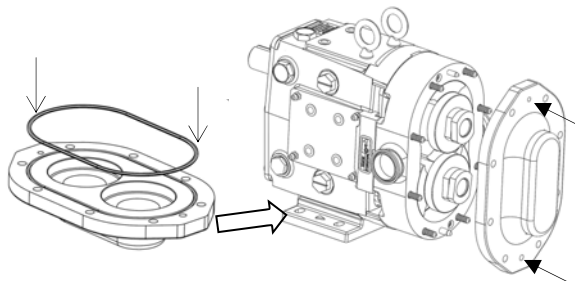
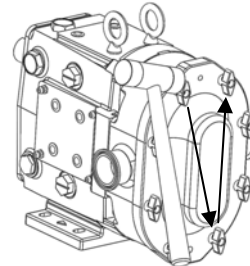

Figure 63: Installing Cover O-ring and Cover
Figure 64: Tightening Cover Wing Nuts
3) Install the new cover o-ring and slide the cover over the studs making sure that the dowels in the body are aligned with the correct dowel holes in the cover (Figure 63). Visually inspect to ensure that the cover o-ring remained in place. Turn the wing nuts (clockwise) by hand and fully tighten them by striking them with a soft mallet. Tighten the wing nuts in an opposing manner as seen in Figure 64, so that the cover is evenly tightened to the body.